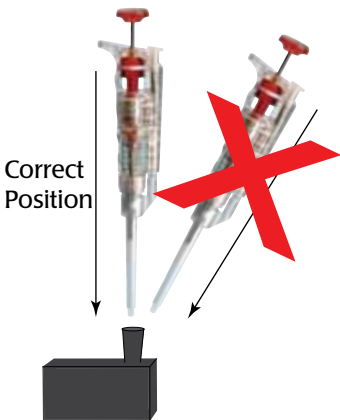

Fig. 3—Proper position for setting the tips
CAUTION: To accurately deliver volume, the **CRYSTAL-2, -10, -20, -10M8** and **-10M12** have a very narrow nose cone structure that is fragile. Use caution when setting the tips. The nose cone may be bent or broken off (**Fig. 3**).
- 2. Install the appropriate pipette tip on the nose cone (**Fig. 3**). The table below shows which tips are compatible with Crystal pipettes.
2. Hold the pipette securely as you rotate the connecting nut to remove the nose cone. The springs inside will push the tip of the pipette off of you aren’t careful. **Fig. 3** shows a disassembled **CRYSTAL-200**.